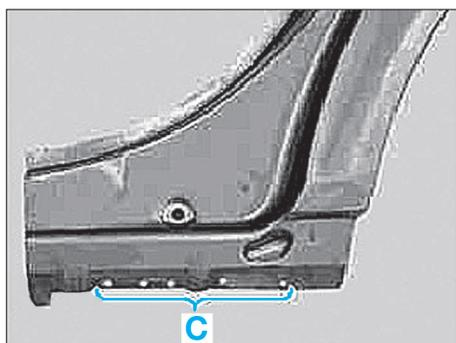

FIG. 100
- Percer des trous Ø 6 mm zone (C) (Fig.100).